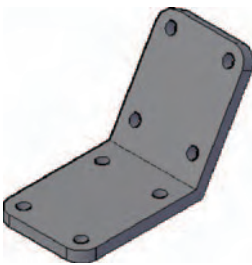

Fig. 17.6 First example – Changing UCS planes
First example – changing UCS planes (Fig. 17.6)
10. Place the 3D model in **ViewCube/Isometric** and set in the **Home/View/Conceptual** visual style (Fig. 17.6).